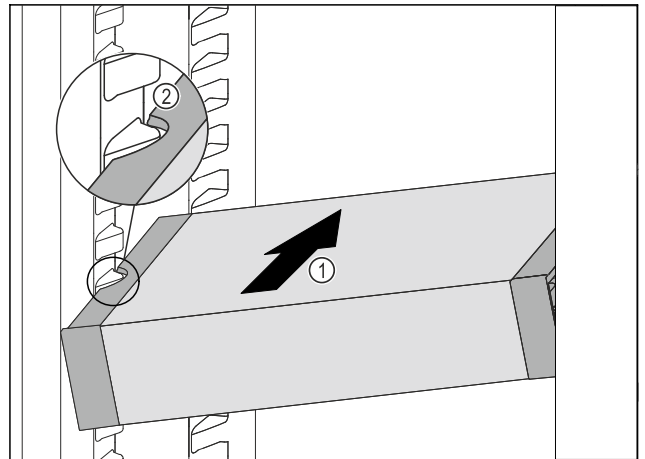

Fig. 94
- ▶ Insert the VarioSafe into the refrigerator compartment at an angle Fig. 94 (1) until the recesses in the side Fig. 94 (2) of the VarioSafe are at the level of the support rib in the refrigerator compartment.